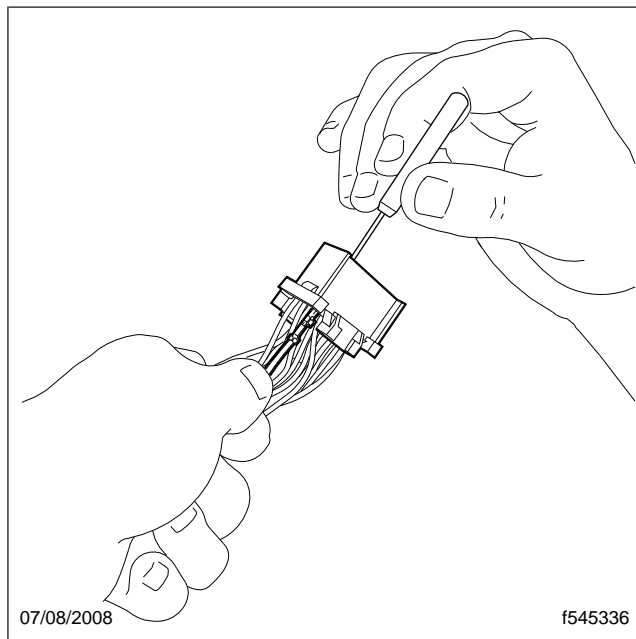

Fig. 3, Removing the Terminal from the Connector
7. If disconnecting the DRLs, remove wire LB08A from the connector, wrap the terminal end of the wire with electrical tape to prevent unintended connection, then secure the wire back to the harness with a tie-strap. See Fig. 3 for wire removal.
12. If disconnecting the DRLs, remove the wire from the connector, wrap the terminal of the wire with electrical tape to prevent unintended connection, then secure the wire back to the harness with a tie-strap. See **Fig. 3** for wire removal.
7. If disconnecting the DRL, remove the wire from the connector, wrap the terminal end of the wire with electrical tape to prevent unintended connection, then secure the wire back to the harness with a tie-strap. See **Fig. 3** for wire removal.